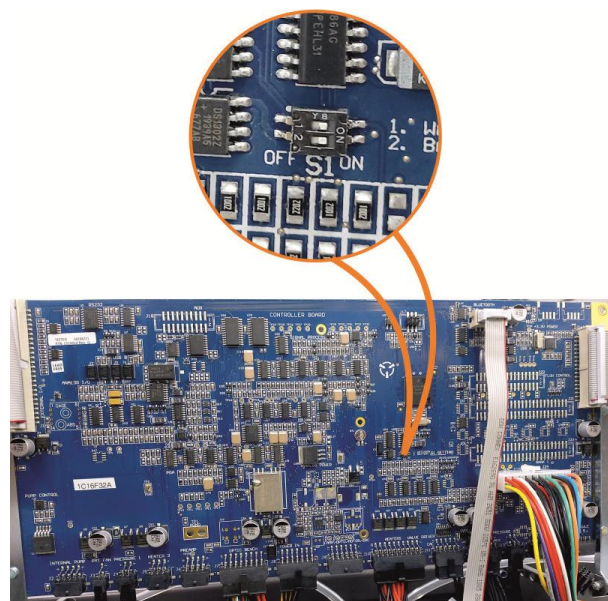

Figure 27 – Switching the Battery ON/OFF
7. Refer to Figure 27. Check the battery is turned ON at the main controller PCA.
3. Refer to Figure 27. If storing over a long period (6 months) turn the battery OFF by switching the switch (S1) on the main controller PCA to OFF.